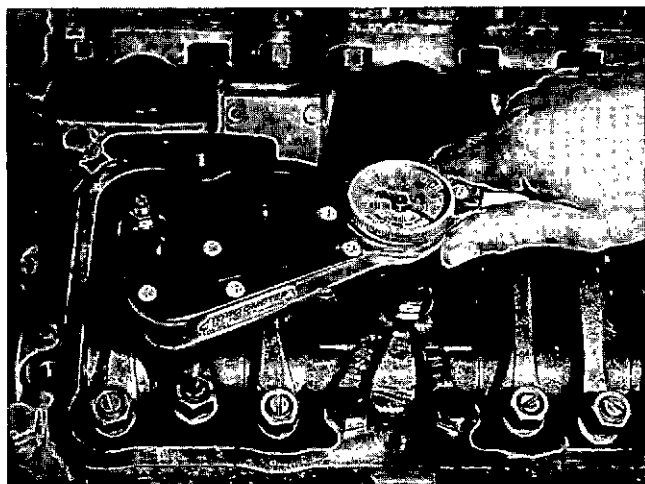

Fig. 14-1-110, V414190. Adjusting injector plunger with torque wrench
4. Use a small, accurately calibrated inch-lb torque wrench to tighten adjusting screw to 50 inch-lb [0.5750 kg m] while engine is cold. Fig. 14-1-110.